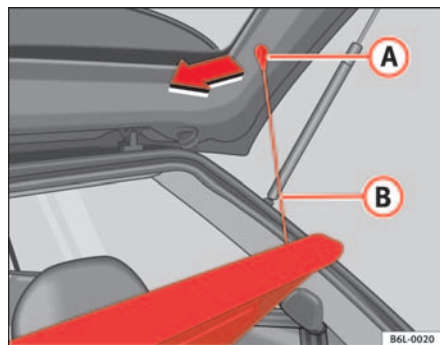

Fig. 84 Luggage compartment cover
- Disengage the loops ⇒ fig. 84 **B** from the allotments **A**.